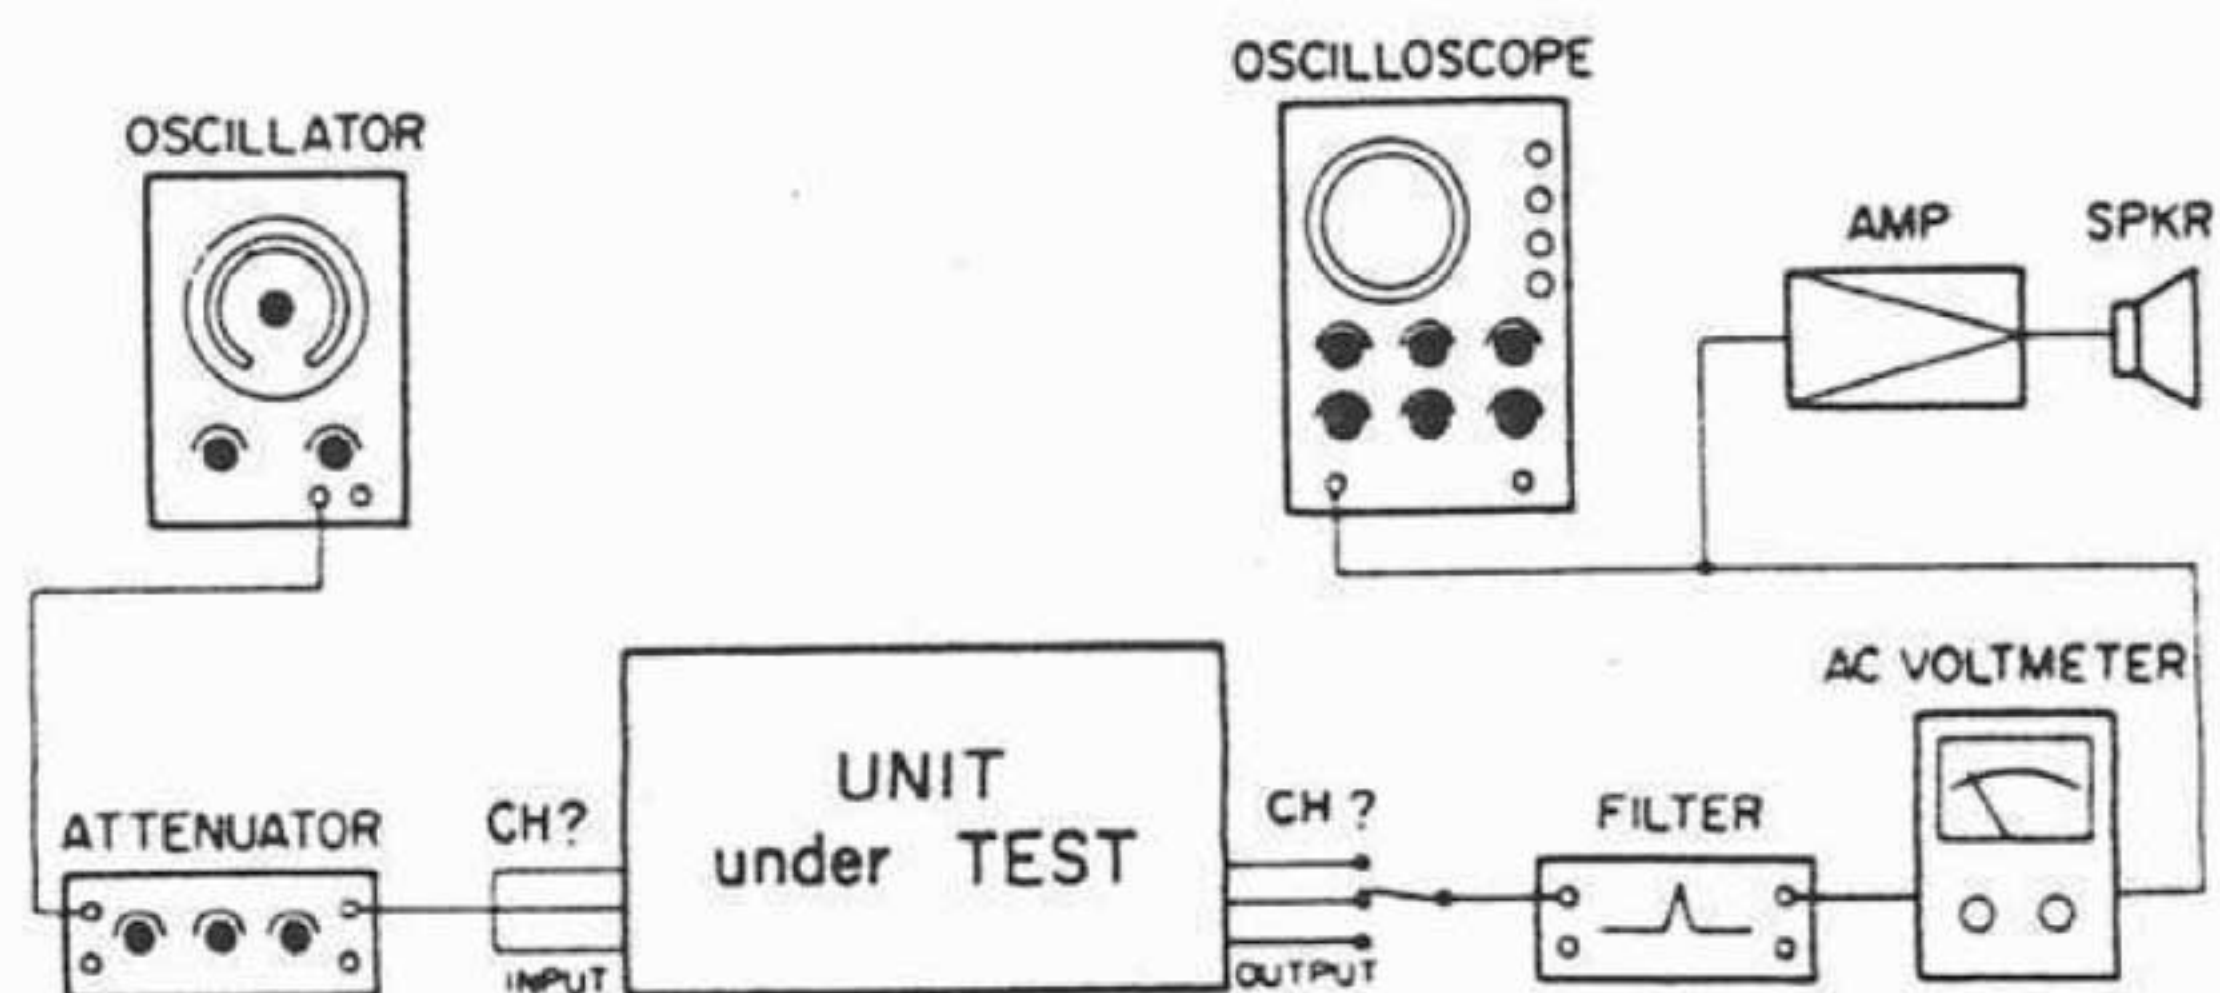

FIG. 39. CROSSTALK TEST SET-UP
1. Connect test equipment as shown in Fig. 39.